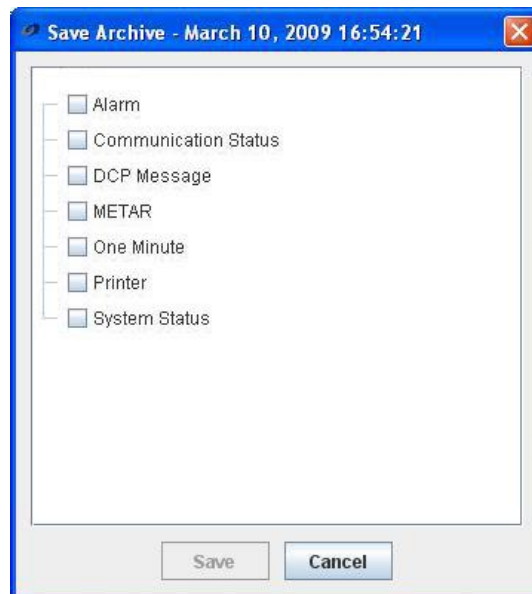

Figure 71. Save Archive Selection Screen
3. A screen will appear (Figure 71) that allows you to select the specific file types within the archive to save. To save all the files of a certain type (Alarm, for instance), click the box beside the folder; a checkmark will appear to show it is selected. To select specific files within the folder, click the open/close icon  beside the folder to view the contents of the folder. Click the desired files within the folder to select them for saving; a checkmark will be shown beside selected files.